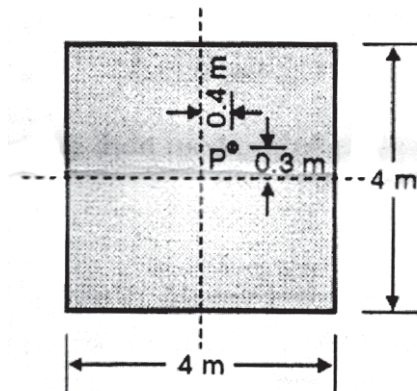

Fig.6
- Q8) a)** Determine the stress resultant at four corners of column subjected to eccentric load of $P = 600\text{ kN}$, shown in fig.6 Also draw the stress distribution diagrams. **[10]**